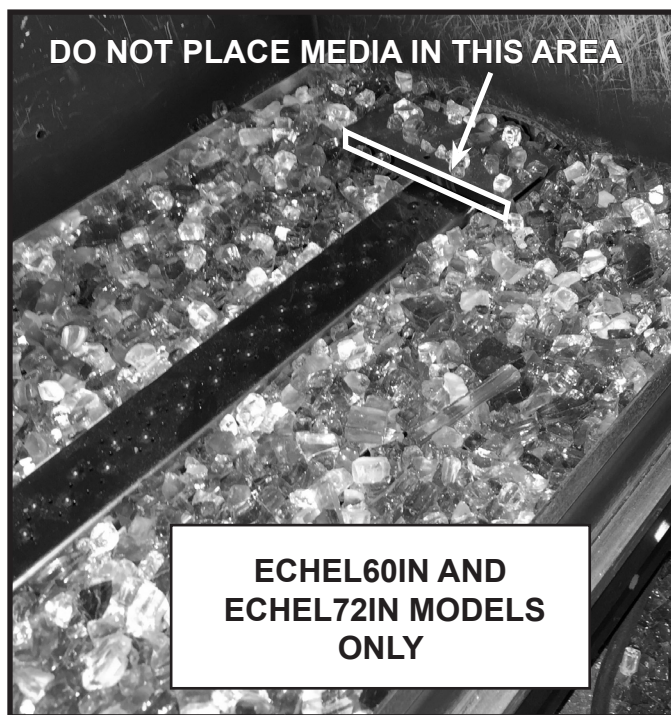

Figure 6. Media installed - Front View
5. **ECHEL60IN and ECHEL72IN ONLY:** **DO NOT** place media in front of opening on right side of the burner (60 and 72 only). Flame appearance will be affected. See Figure 6.